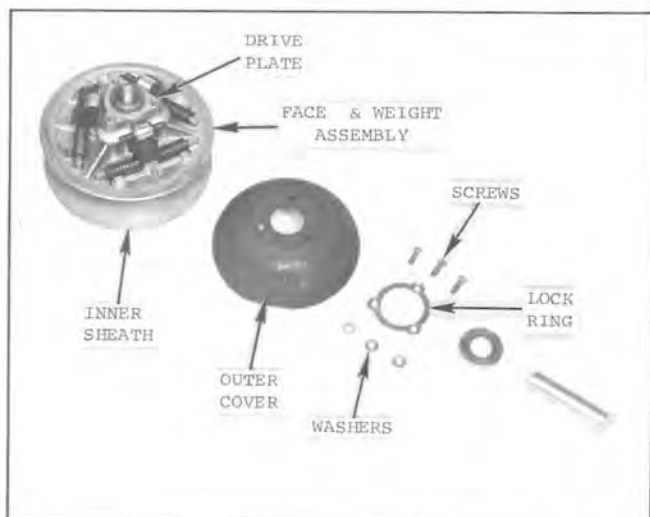

Fig. 61 — Outer Cover Removed From Pulley — L 297 Engine
- b. Remove the screws, lock ring and washers, then lift outer cover from pulley assembly. See Fig. 61.